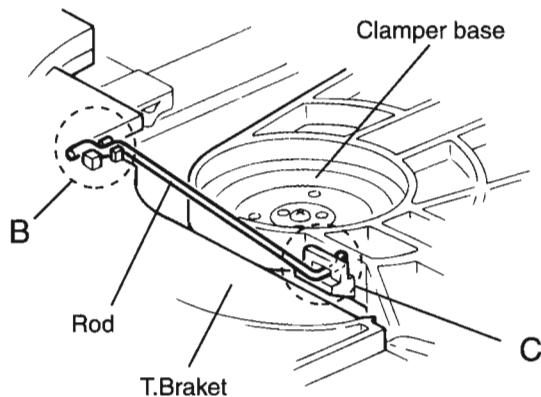

Fig.2
■ Removing the CD tray assembly (See Fig.2~4)
4. From the T.bracket section "B" and clamper base section "C", remove both of the edges fixing the rod(See Fig.2 and 3).